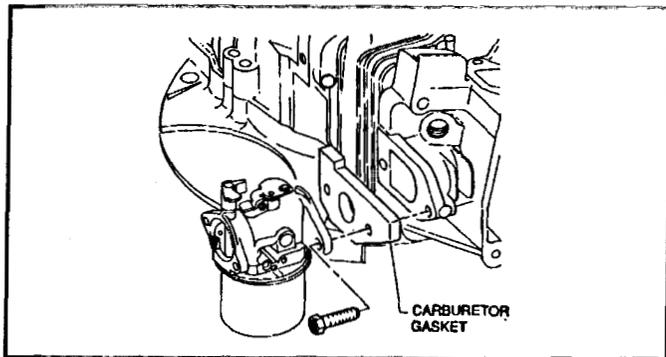

Figure 93
2. Install the carburetor gasket/insulator and carburetor on the block of the engine. Torque the screws to 60 in lbs (6.8 Nm). See Figure 93